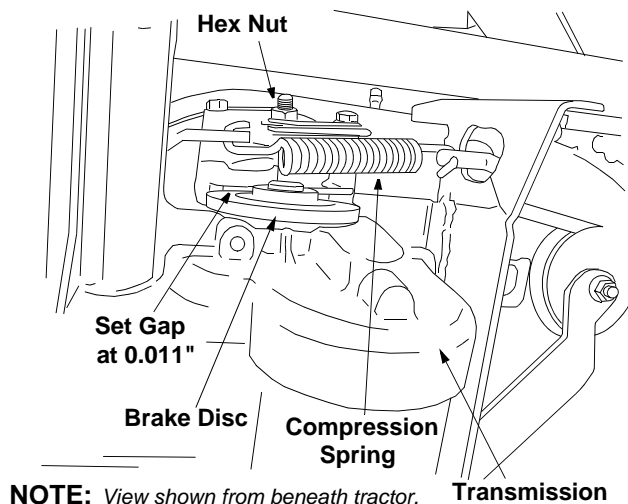

Figure 17
- Looking at the transmission from the right side of the tractor, locate the compression spring and brake disc. See Figure 17.
- Loosen, but do NOT remove, the hex nut found on the right side of the brake assembly. See Figure 17.